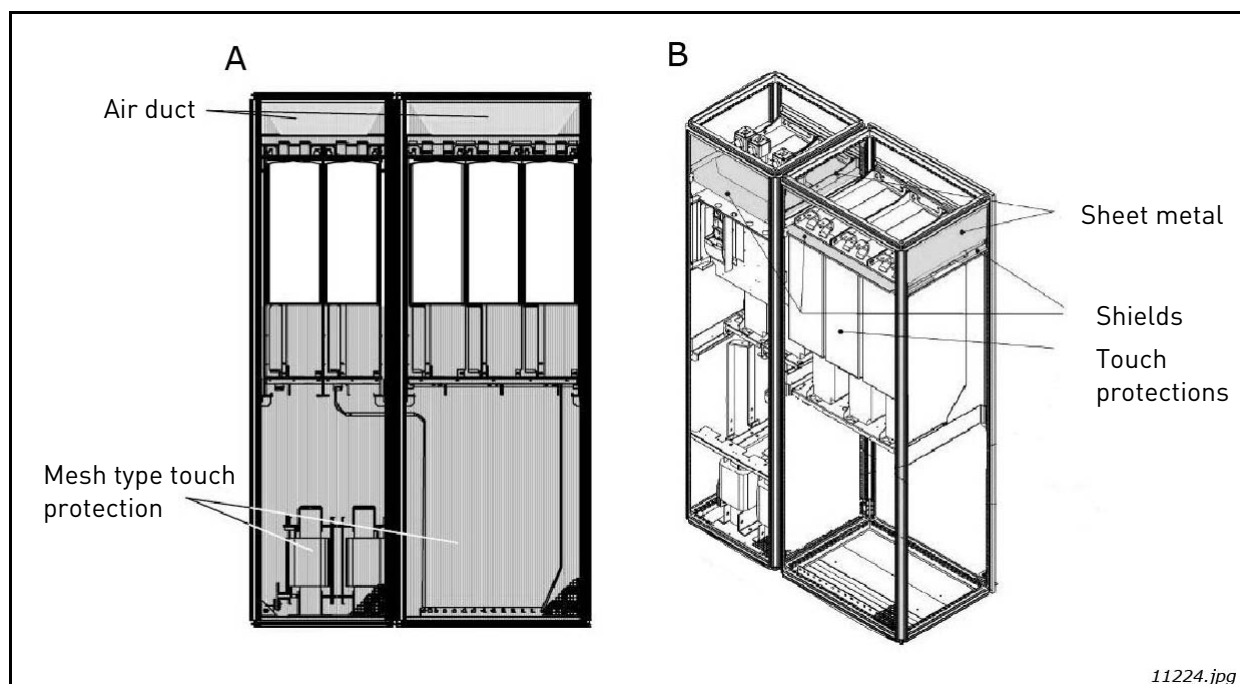

Figure 40. Cabinet cooling airflow guides
- A. Install a closed air duct from the power unit to the outlet on top of the enclosure (A in Figure 40).
- B. Install shields in the gaps between the power unit and the cabinet walls (B in Figure 40). Place the shields above the air outlet gaps at the sides of the module.